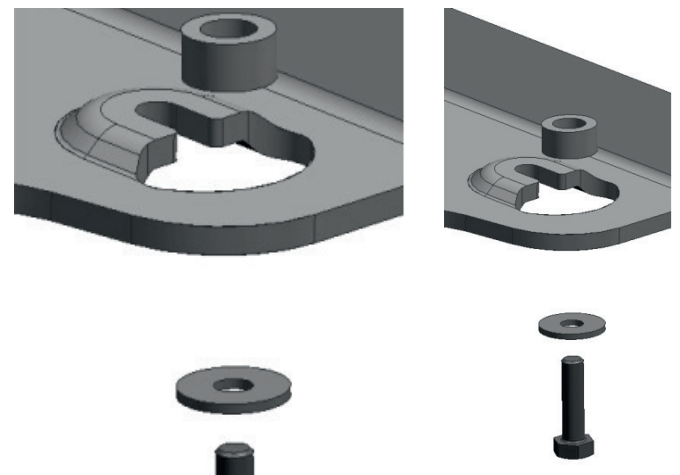

Fig.4
4. Slide the rear of the skid plate on to the fasteners as oriented in fig.4.